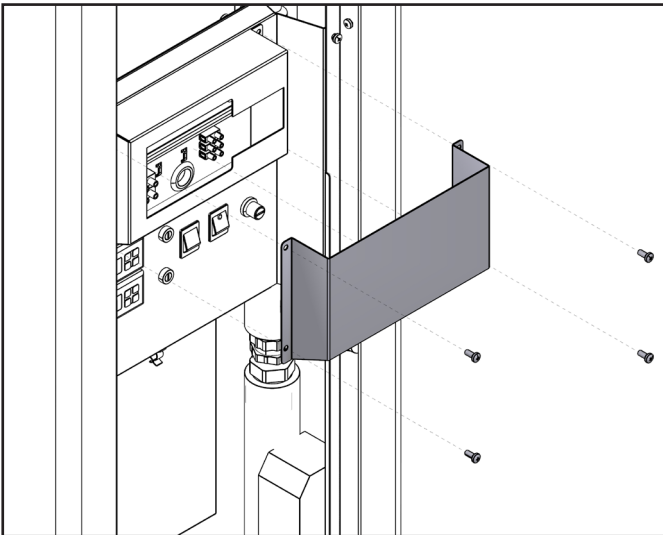

Figure 7-8: Removal of meter retaining bracket and cover
- Remove both the meter housing and cover (located immediately above the control panel) from the boiler. Unscrew the four screws (two on either side of the cover). The meter housing and cover will come away together from the boiler. Refer to Figure 7-8. Keep the four screws as they will be required to re-fit the retaining bracket.